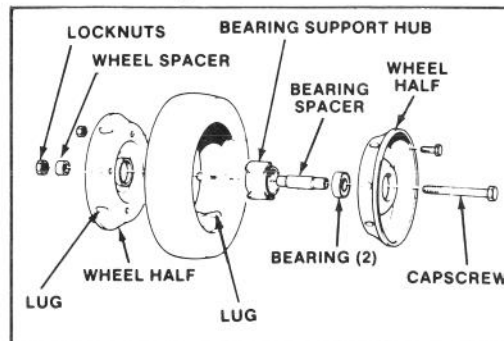

Figure 23
1. Remove capscrew, wheel spacer, and lock-nut mounting wheel to pivot arm (Fig. 23).
2. Separate wheel halves from tire by removing (4) flange capscrews and locknuts (Fig. 23).
1. Position tire onto (1) wheel half aligning lugs on each (Fig. 23).